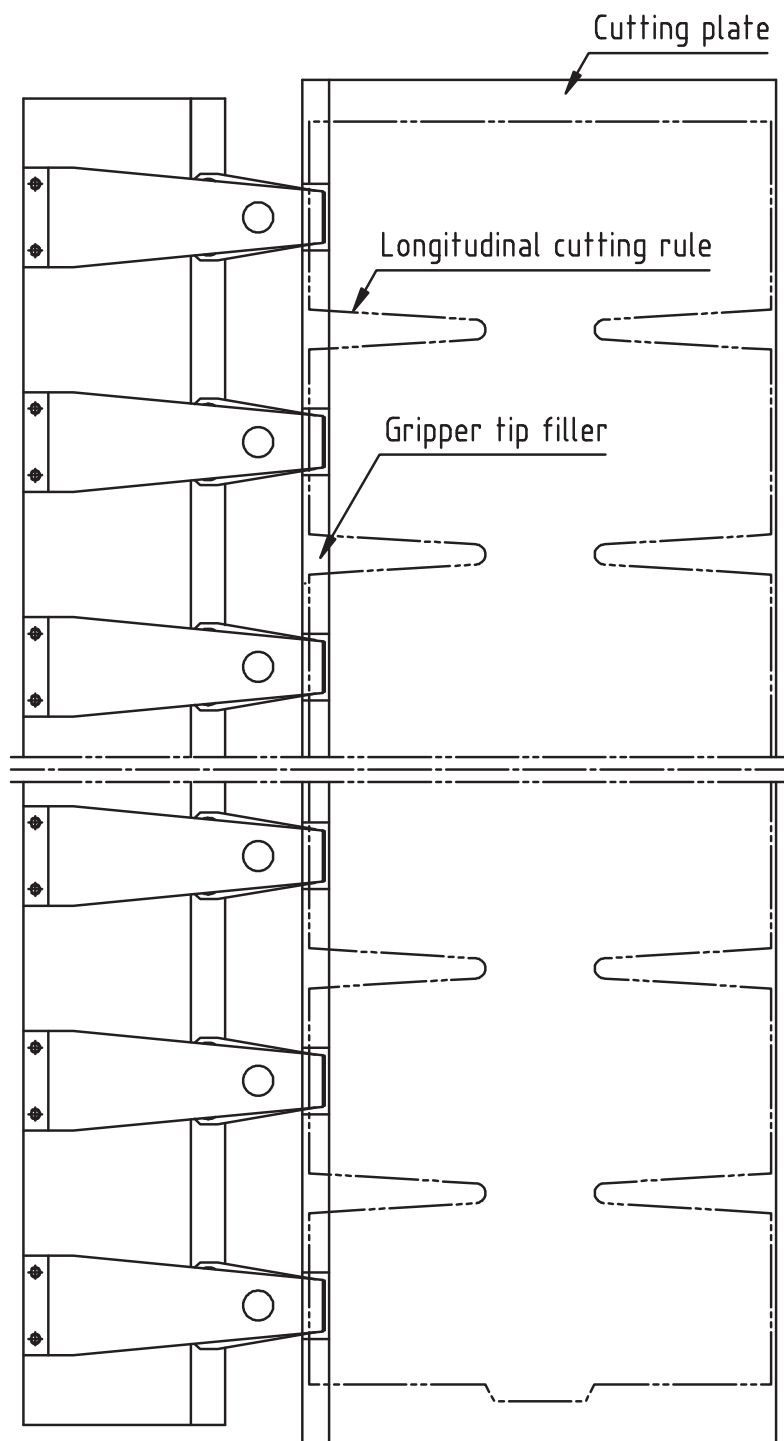

Fig 6.21
- 1) Extend the longitudinal cutting rules to the edge of the cutting chase. (Fig 6.21)